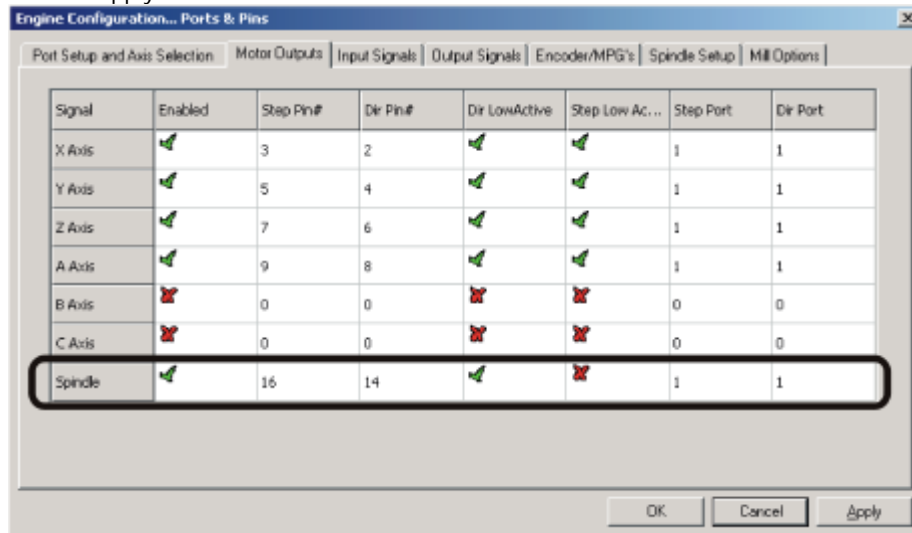

Figure 4 – Mach3 Spindle Motor Pinout Configuration
- (3) Still in the "Config" "Ports and Pins" dialog, click on the "Motor Outputs" tab. The bottom line is labeled "Spindle". Make these changes:
- See Figure 4